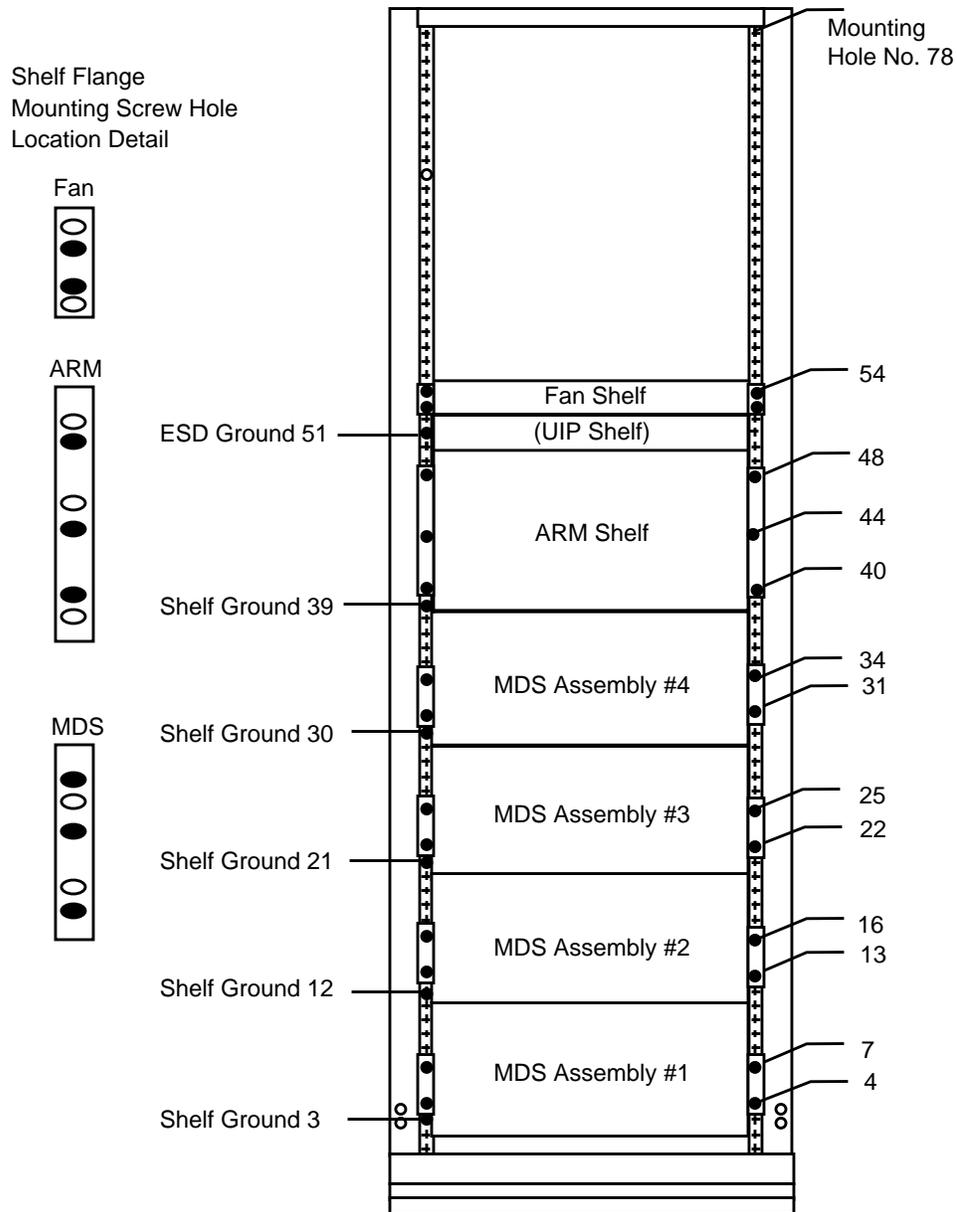
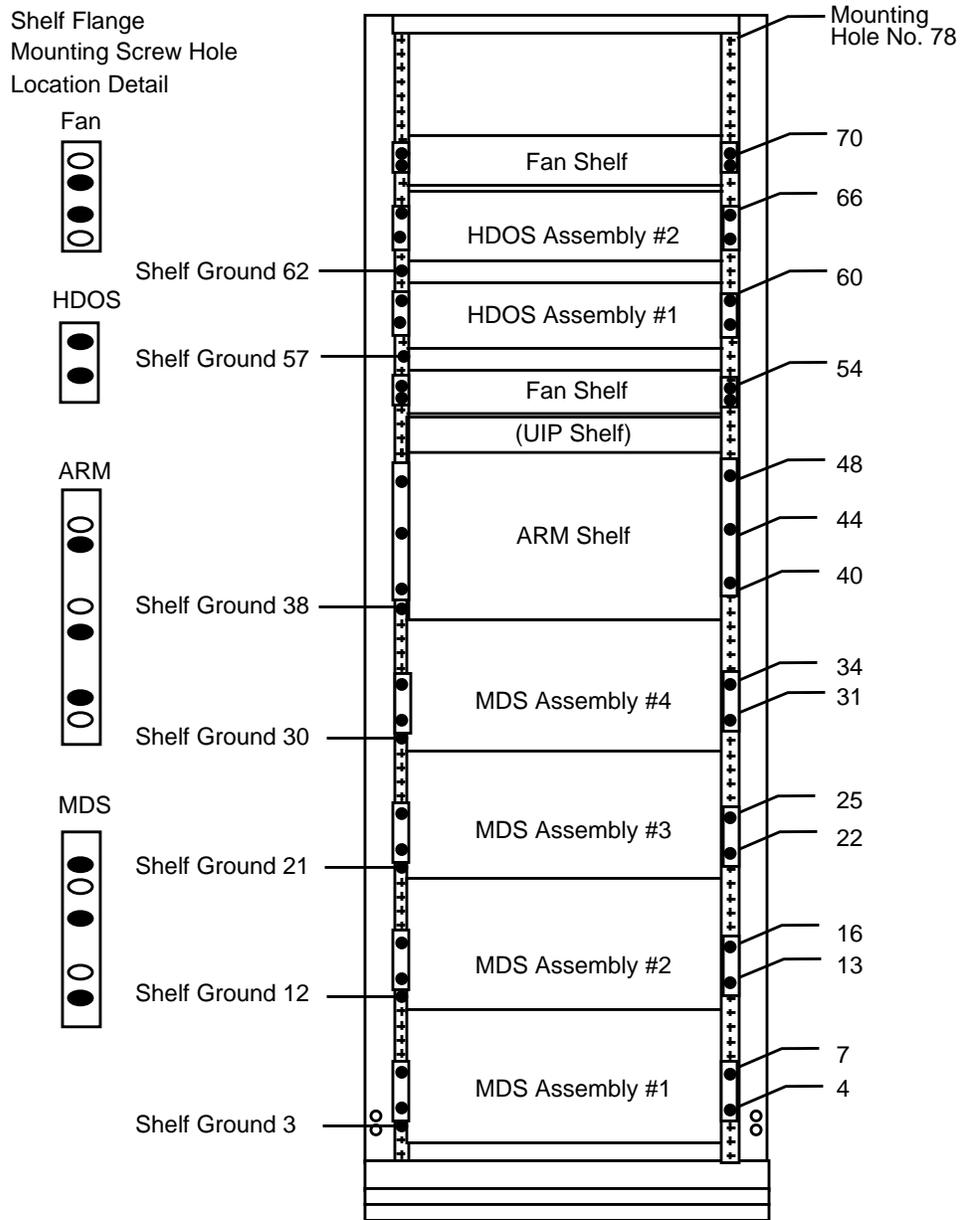

Figure 2-5. 7 Foot RT Bay Metallic Equipment Mounting Locations
Figure 2-7. 7 Foot RT Bay FITL Equipment Mounting
These procedures shall be followed when separate shelves must be mounted, when increasing system capacity, or when equipment shelves must be replaced. Refer to the Figure 2-5 or 2-7 for equipment shelf locations.
Shelves must be assembled only in accordance with the Mounting Hole Locations in Figure 2-5 or 2-7. To mount the shelves otherwise would destroy the integrity of the system airflow, the local cable connections and the growth pattern.
Step 3: Locate the ground strap attached to each assembly and connect it to the bay frame as indicated in the Figure 2-5.
Step 2: Locate the ground strap attached to the ARM shelf and connect it to the bay frame as indicated in Figure 2-5.
Only one 4G Fan Shelf is required for the RT Bay configured for metallic distribution only. The shelf must be located at the specific location depicted in Figure 2-5. A second 4G Fan Shelf is required when the bay is to be equipped with HDOS shelves when configured as a host terminal for areas served via the FITL. This Fan Shelf shall be located above the HDOS shelves as depicted in Figure 2-7.
Up to two HDOS equipment shelves can be mounted above the ARM shelf and its 4G Fan Shelf in accordance with the layout of Figure 2-7. If only one HDOS is required, the additional 4G Fan must be located directly above the HDOS #1 assembly. Do not leave any space between the Fan and the HDOS.
Step 2: Refer to Figure 2-7 and mount the shelf using its attached hardware to its designated bay position.
Step 3: Locate the ground strap in the right side wiring harness of the HDOS and connect it to the bay frame as indicated in Figure 2-7.